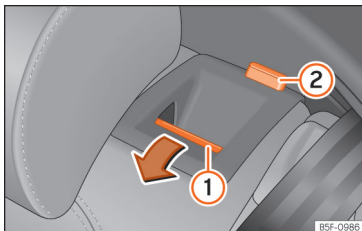

Fig. 151 On the rear seat backrest: release button ①; red mark ②.
- Press the unlock button »» Fig. 151 ① forwards and at the same time fold the backrest down. The rear seat backrest is not engaged when the red marking of the button ② is visible.